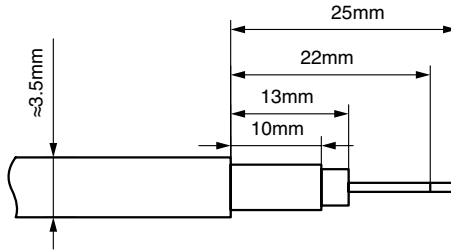

Fig. CC8: Insulation stripping lengths for flange side
1. strip the insulations as shown in figure CC8.